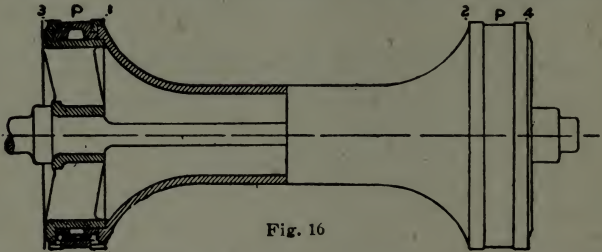

Fig. 16
This is a slide valve of cylindrical form which has many good qualities. It derives its name from its construction and consists of two pistons (P P), connected by a stem which is generally hollow (Fig. 16).
The pistons have two or more packing rings, which form the steam and exhaust edges of the valve. Packing rings (1 and 2) form the steam edges and rings (3 and 4) the exhaust edges (See Fig. 16). It permits of a greater port area and occupies less space than the (D) valve, this form of valve being encased
over them. The closer the rings fit into the grooves (See Fig. 16) the better, but it is almost impossible to get the rings steam tight without having them stick in the grooves, and the more the sides of the rings wear, the greater will be the pressure under the rings, and therefore the greater the friction. Owing to the